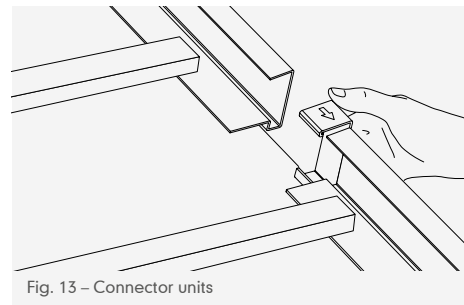

Fig. 13 – Connector units
- 5 Where necessary, a connector unit is fitted at joints between extrusions (Fig. 13).